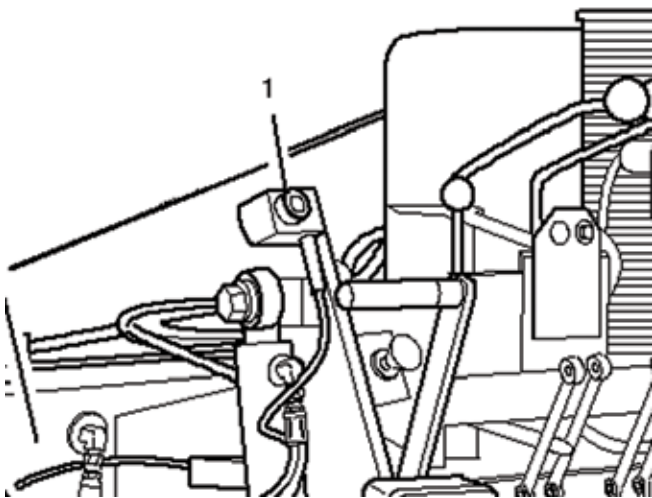

Figure 4-7. Sonic Auger Height Adjustment
3. Adjust height of material at end gate with the sonic auger adjustment (Figure 4-7,1). Turn the dial to keep the extension full. Be careful not to over run the extension with the material.